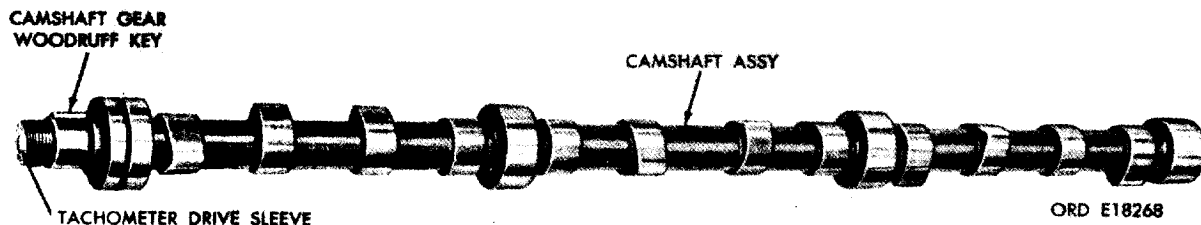

FIGURE 338. CAMSHAFT ASSEMBLY AS REMOVED FROM ENGINE.
The only component part removed from the camshaft assembly is the camshaft gear Woodruff key (fig. 338). The tachometer drive sleeve is a press fit in the end of the camshaft and is not removed unless it is damaged.
- (2) Woodruff key. Inspect camshaft gear Woodruff key (fig. 338) for nicks and for snug fit in keyway. A damaged key, or loose fitting key, will be cause for replacement of key or camshaft.
b. Assembly. Refer to figure 338 and install camshaft gear Woodruff key.